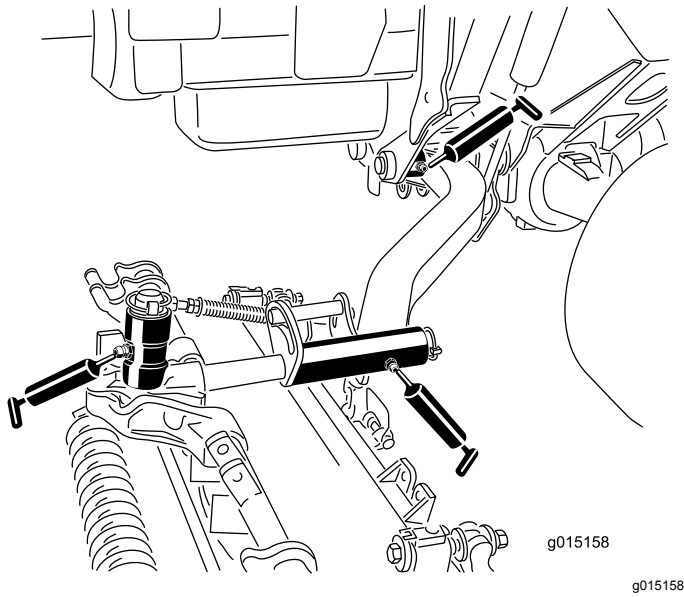

Figure 71
- Lift arm pivot bushings (1 per cutting unit) (Figure 71)
- Cutting unit carrier frame (2 per cutting unit) (Figure 71)
- Cutting unit lift arm pivot (1 per cutting unit) (Figure 71)